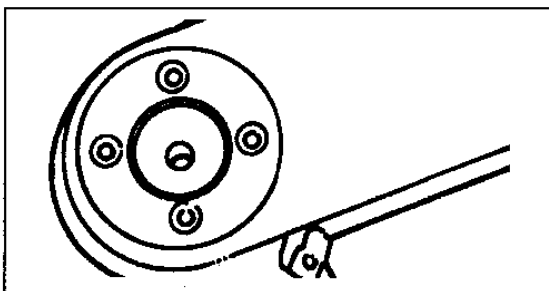

Figure 38 Insert Terminal
4. Insert terminal (Figure 38) and turn adjusting screw counterclockwise out until terminal is flush with indenter cover. Tighten lock nut.